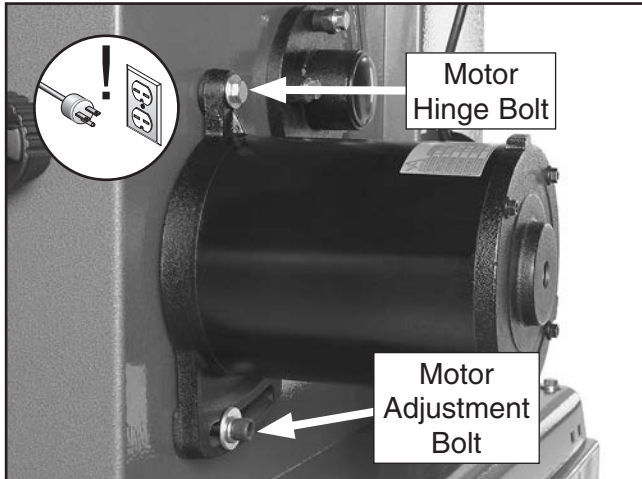

Figure 47. Motor mount bolts.
2. Loosen the motor mount bolts shown in **Figure 47**.